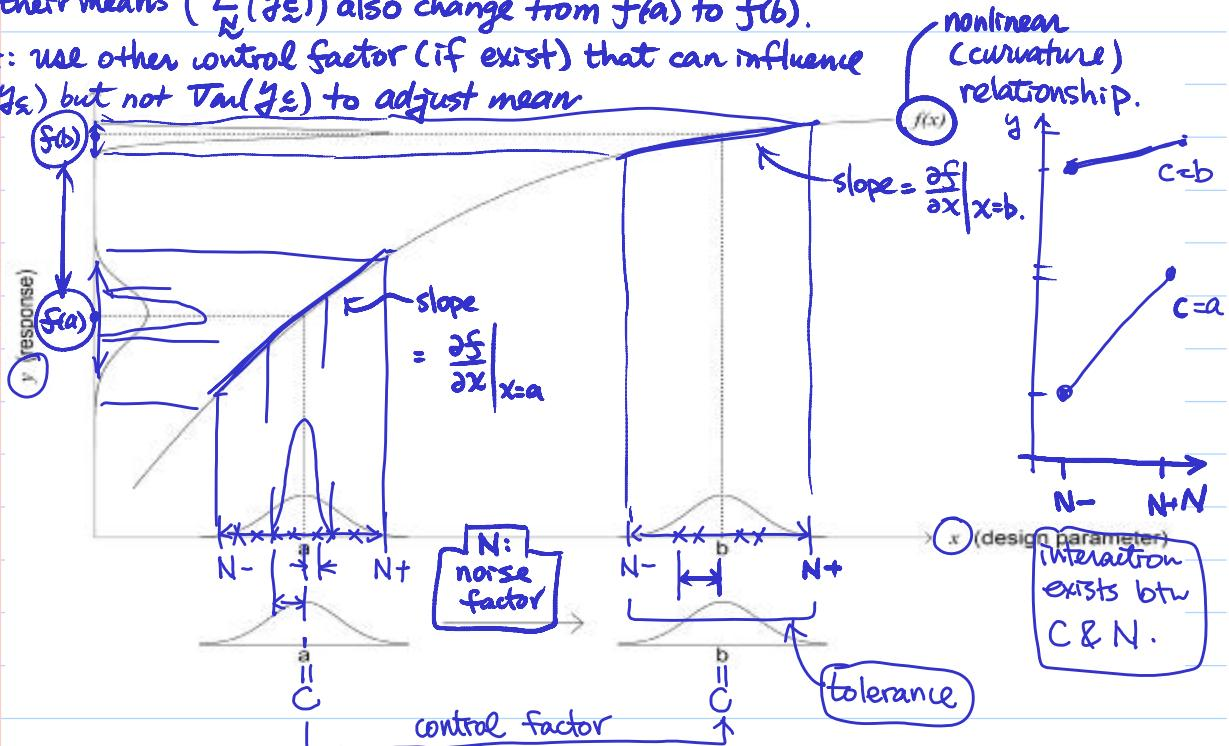

Figure 1: Exploiting the Nonlinearity of  $f(x)$  to Reduce Variation
- From (1), it can be seen that  $\sigma^2$  can be reduced by choosing  $x_{i0}$  with a smaller slope  $\frac{\partial f}{\partial x_i} \Big|_{x_0}$ . This is demonstrated in Figure 1. Moving the nominal value  $a$  to  $b$  can reduce  $\text{var}(y)$  because the slope at  $b$  is more flat. This is a parameter design step. On the other hand, reducing the variation of  $x$  around  $a$  can also reduce  $\text{var}(y)$ . This is a tolerance design step.